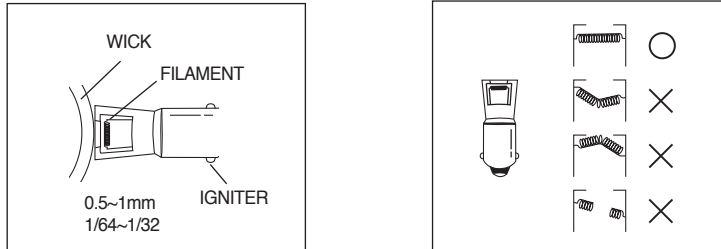

Fig. 10
**NOTE :** Do not use excessive force when pushing the ignition button. This can cause the igniter to catch the wick and may prevent ignition from occurring. Pushing too lightly on the Ignition button can prevent ignition from occurring by keeping the igniter too far **from** the wick. As Fig. 10 (Page 9) shows, the optimal distance between the igniter and the wick is 1/64- 1/32 inch (0.5 to 1mm). If it is difficult to ignite the heater, the filament on the igniter might be bent, broken or misshaped.
If the automatic ignition system does not work, check the filament on the igniter (see Fig. 10) (page 9) to see if it is broken or misshapen. A small distortion can be fixed with a match stick. If the filament is stretched or broken, replace the igniter with a new one. **NOTE: Remove the batteries before replacing the igniter.** Refer to section "CHECKING THE IGNITION SYSTEM" on page 3 for instructions on how to replace the igniter.